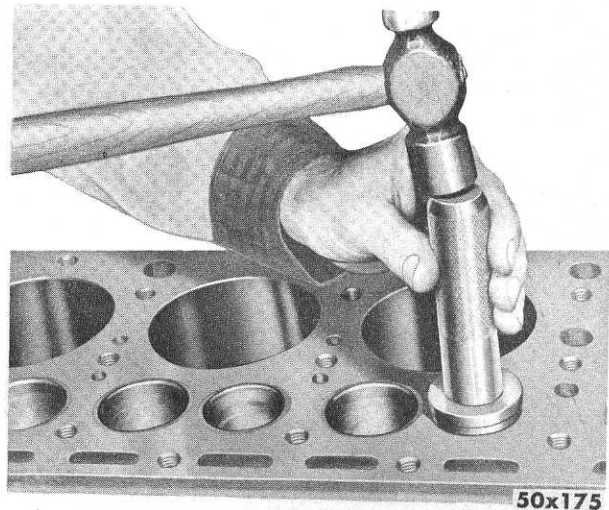

Fig. 50—Installing Valve Seat Insert
- (3) Place a chilled insert in the counterbore—*valve side up*.
- (4) Using Tool from Kit C-768 (Fig. 50), drive the insert down tightly into the counterbore.